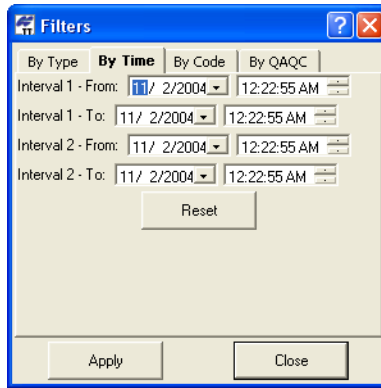

Figure 4-58. Select By Time Filter
2. On the *By Time* tab, select the *From* and *To* time filters for *interval 1* and *interval 2* to apply to the job (Figure 4-58 on page 4-57).